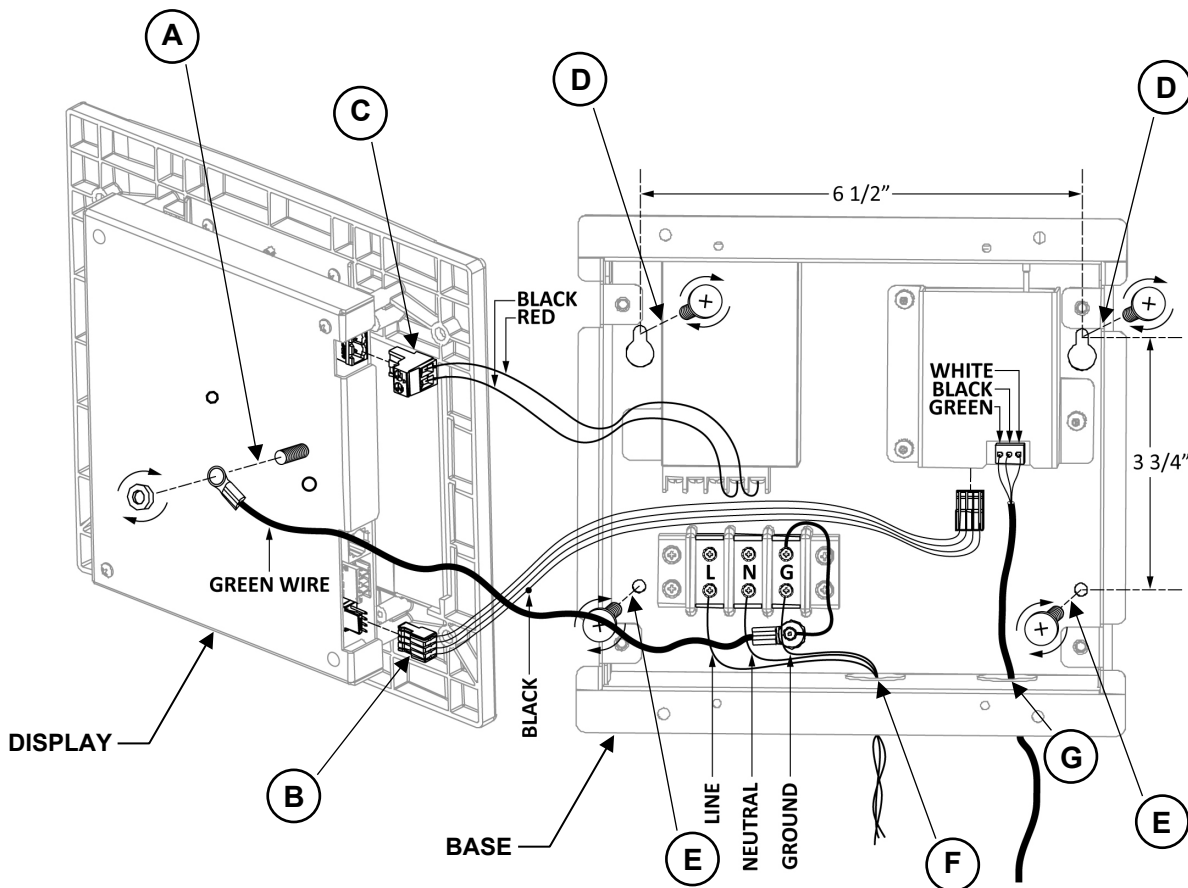

Figure 1.0
9. Bring a low-voltage RS-485 cable (**EC-4 or 4 conductor 22 AWG twisted pair with shield**) through the right preformed knockout (**G**) and secure to the terminal block (see Figure 1.0).